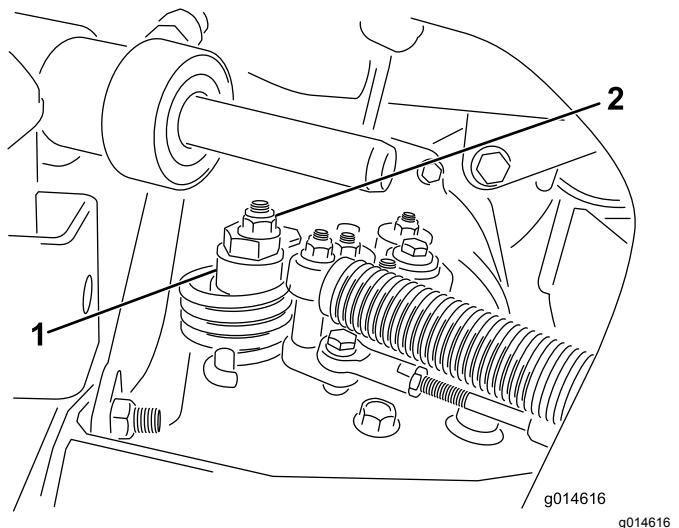

Figure 34
- A. Loosen the nut securing the eccentric to the top of the hydrostat (Figure 34).